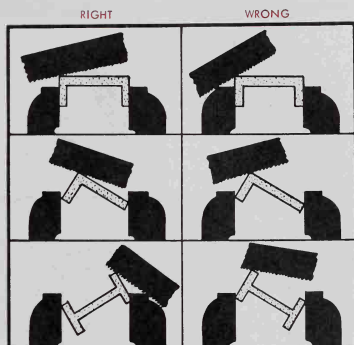

Fig. 4-22. Correct blade angle for starting cuts.
4. Hold the saw at the correct angle, Fig. 4-22.